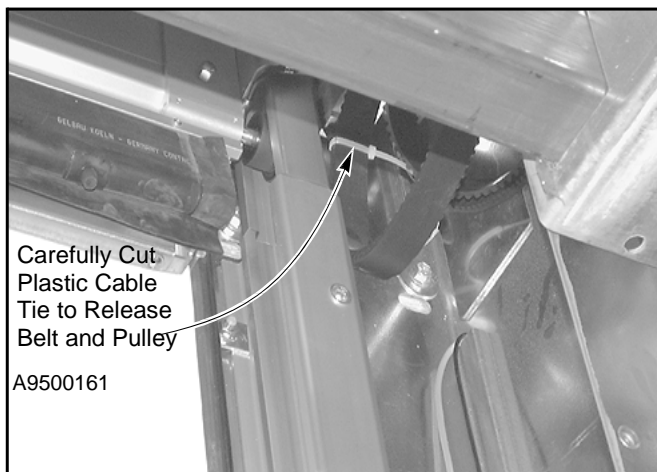

Figure 30
1. Each drive belt has been factory mounted to a drive pulley and a guide pulley. Also, each belt has been packed for shipping inside its respective drive assembly. Carefully cut the plastic cable tie that is temporarily securing the belt to the drive assembly. (See Figure 30.)